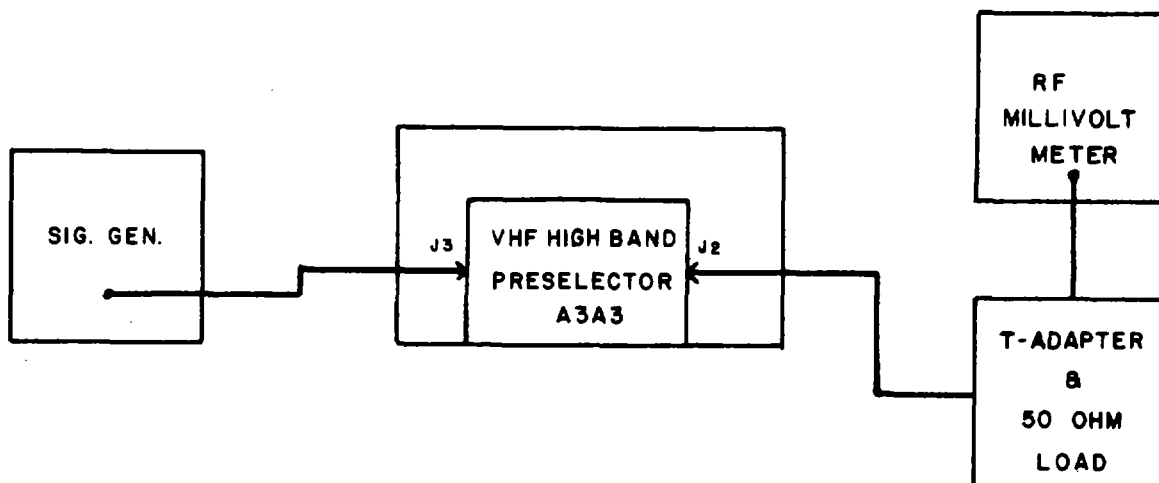

Figure 4-9. VHF Preselector Performance Test, Equipment Connections
2. Connect the test equipment as indicated in **Figure 4-9**. Tune the receiver to 22.0000 MHz.